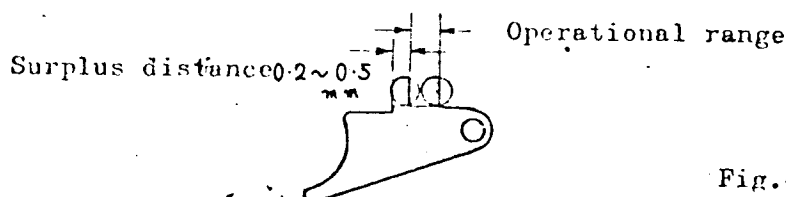

Fig.4-44
- c Disengage the 1st frame stabilizer with tweezers (in actual condition, Duality prevention lever-E91-disengages the stabilizer when the first shutter cocking is completed). Then turn the curtain charge gear (E80) and see whether the D-shaped pin moves within the range shown in Fig.4-44. A surplus distance must be observed at the step.